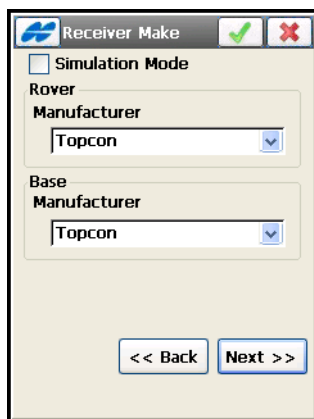

Figure 3-6. Receiver Make
- **Next** – opens the *Receiver Make* screen (Figure 3-6 on page 3-8).
The **Receiver Make** screen (Figure 3-6) contains general settings for the rover and base receivers.
- *Receiver Model* – the model of the receiver being used for survey. For Topcon manufacturer (see Figure 3-6 on page 3-8), select *Hiper II*, *GR-3*, *GR-5*, *GMS-2/GMS-2 Pro*, *GRS-1*, *NET G3*, or *Topcon Generic*. For Sokkia manufacturer, *GRX-1*, *GSR2700 ISX*, *GSR1700 CSX*, *GSR2700 IS*, *GSR2600* and *Radian IS* receivers are available for use.